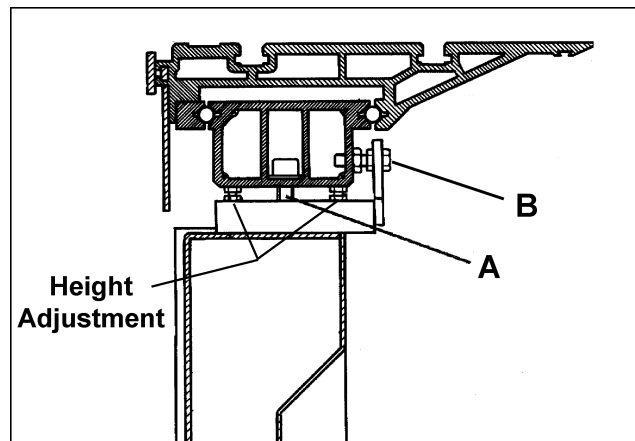

FIGURE 35
1. At the end you have decided to move, loosen the socket head cap screw (A-fig. 35) holding the sliding table to the frame.
3. Loosen the nut on the lateral adjustment bolt (B-Fig. 35) at one end.
4. Turn the lateral adjustment bolt in or out as needed, then retighten the nut (B-Fig. 35). Re-tighten the socket head cap screws (A-Fig. 35)
NOTE: The sliding table should be approximately 0.3 mm higher than the fixed cast iron table (thickness of a piece of paper). This is pre-set at the factory, but if adjustment should ever be needed, use the four height adjustment bolts (Fig. 35) on each end of the table.